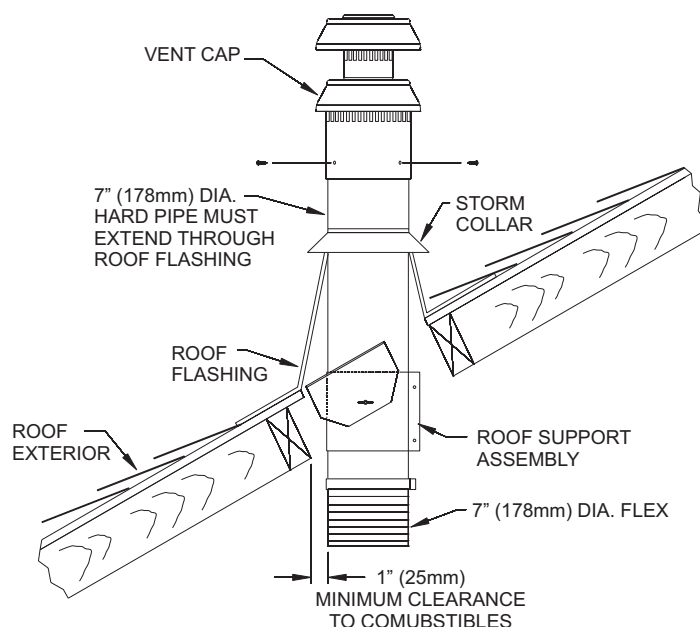

Figure 38
19. Once the lower connections are made and the flex pipe is secured with support bands as required (3 feet minimum between supports) then the roof flashing can be installed. **See Figure 38.**
22. To complete the vent installation, install the vent termination cap to the top of the hard vent pipe assembly. Mate up the flue and outer telescopes with the hard pipe assembly, then secure by installing a minimum of two (2) sheet metal screws into the overlapped flanges of the cap and pipe.